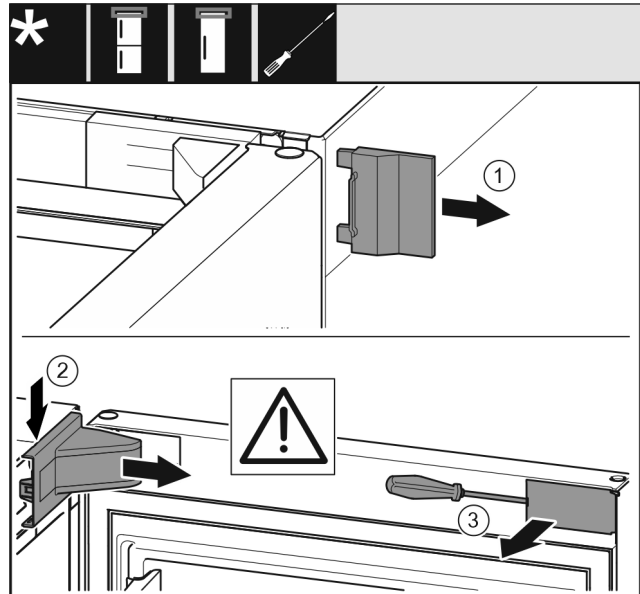

Fig. 8
- Remove the outer cover Fig. 8 (1).
- Disengage and remove the swap bearing block cover Fig. 8 (2).
- Use a slotted screwdriver to unlatch the trim Fig. 8 (3) and swing it to the side.